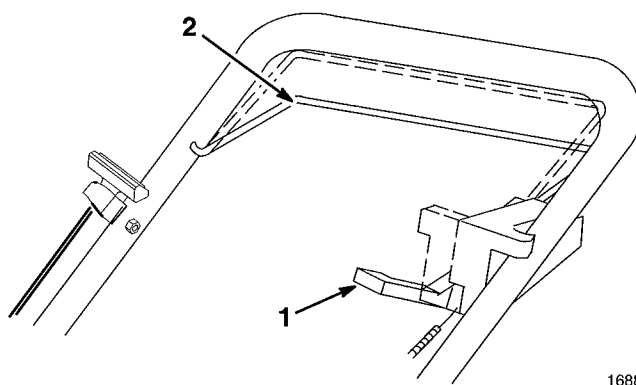

**Figure 11**
4. Slowly squeeze control bar against handle to engage traction mechanism (Fig. 11).